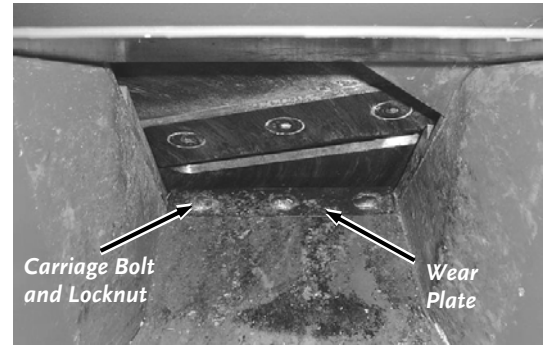

Figure 40
1. To adjust the Wear Plate Gap, loosen the three Nuts on the Carriage Bolts with a 7/16" wrench just enough so the Wear Plate will move but still have a slight resistance. Now you can slide the Wear Plate up or down (in or out) to achieve the correct gap setting (**Figure 40**).